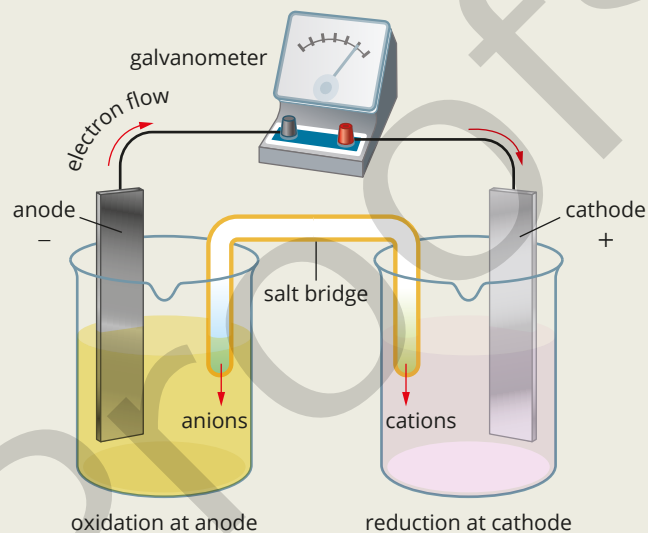

FIGURE 9.1.12 Key concepts about how a galvanic cell works.
- Key concepts about a galvanic cell are summarised in Figure 9.1.12.